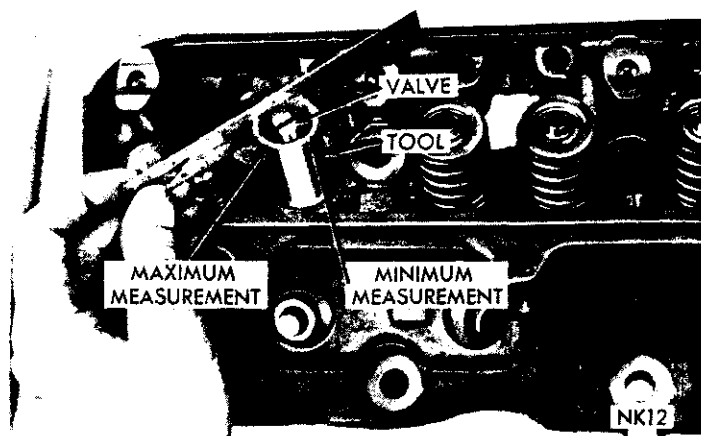

Fig. 17—Measuring Valve Stem Length
(1) Coat valve stems with lubrication oil and insert them in cylinder head.
(2) If valves or seats are reground, check valve stem height with Tool C-3968 (Fig. 17). If valve is too long, grind off the tip until length is within limits.